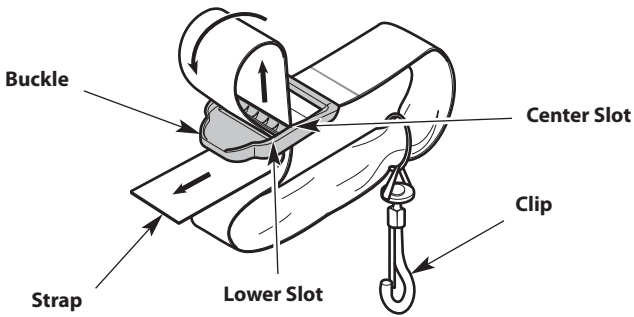

Fig. 9
1. Push the strap up through the center slot in the buckle (Fig. 9).
2. Bend the strap over and push it down through the lower slot in the buckle (Fig. 9).